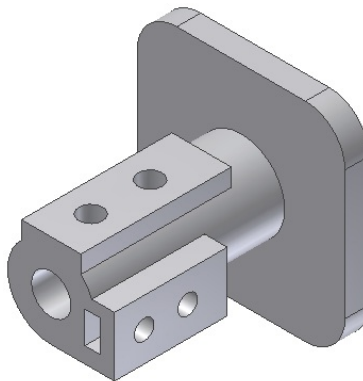

Figure 7-73 Model after creating holes and the cut feature
2. Create a hole of 20 mm diameter and 96 mm depth on the front face of the cylindrical feature. The model after creating the hole and the cut feature is shown in Figure 7-73.
3. Similarly, create holes one by one on the faces of the rectangular join features, see Figure 7-73. For the dimensions and location of holes, refer to Figure 7-62.